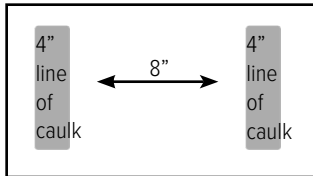

Figure 2.1.1
2.1.1 Apply caulk on base reveal as shown in Figure 2.1.1.